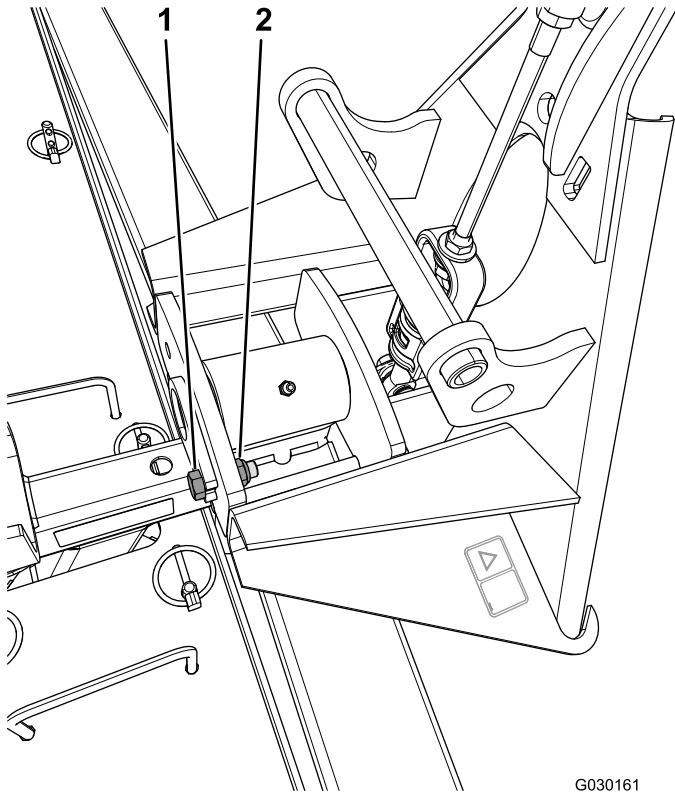

Figure 1
1. Remove and discard the nut and the bolt securing the lynch pin to the adapter assembly of the nail drag (Figure 1).